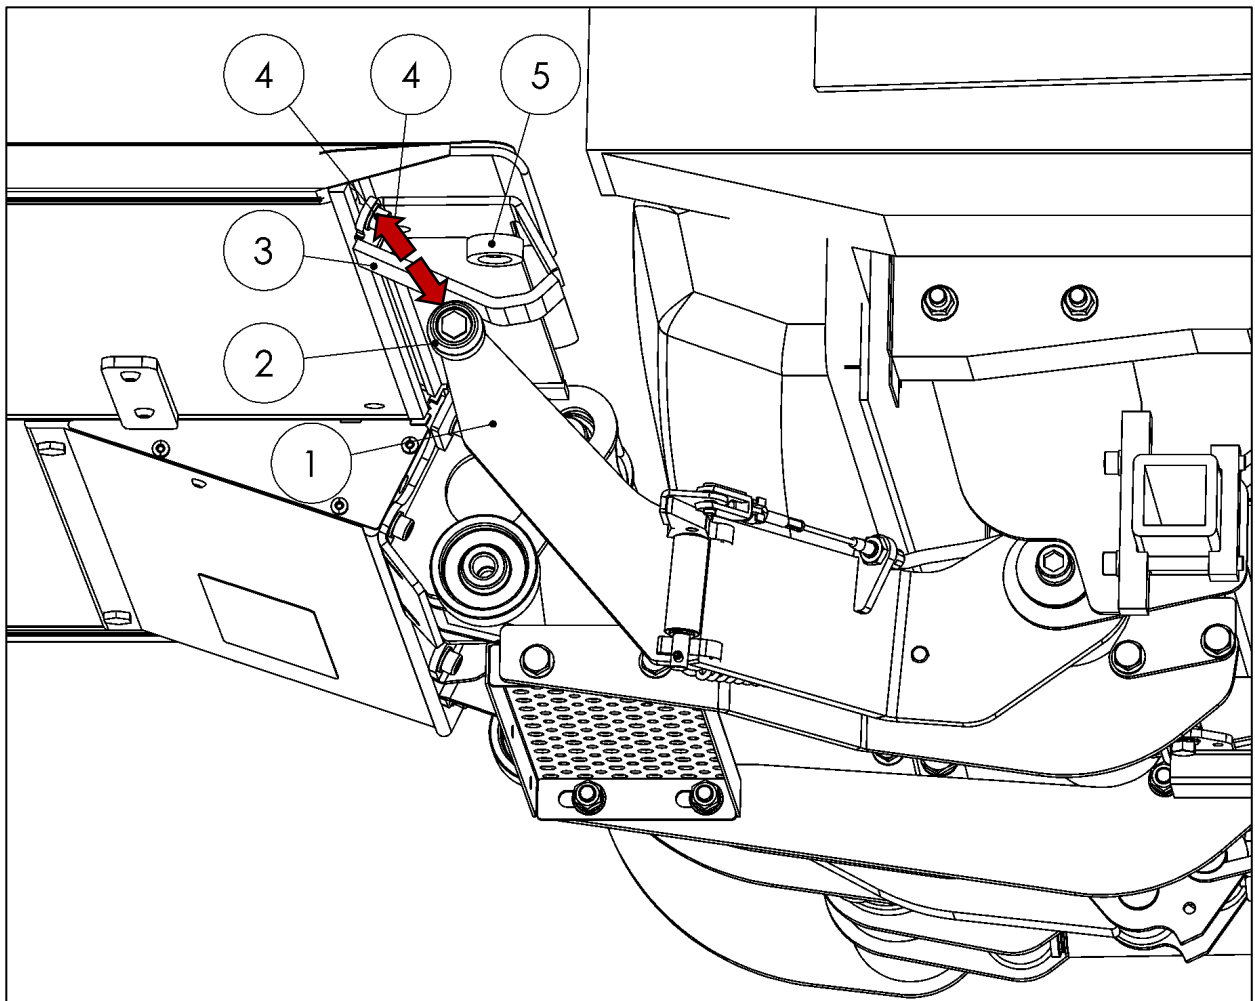

Fig. 75
IMPORTANT: The roller (1) on the support arm (2) must remain against the stop (3) throughout the entire lifting process. If necessary, loosen the stop (3) and shift it slightly by loosening 2 cheese-head screws (4). At the same time, the stop (3) must not be shifted too far. When the platform is folded over, the plastic spacer (5) must hold the platform in place (see Fig. 75).